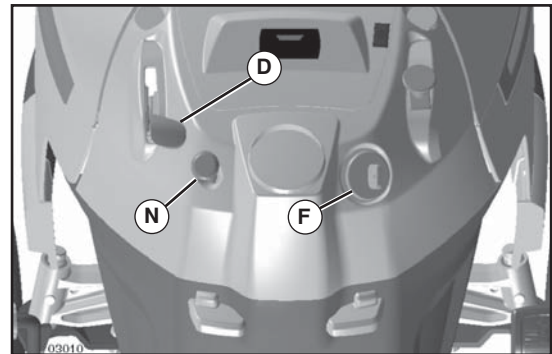

FIG. 6
TO USE THROTTLE CONTROL (D) (See Fig. 6)
TO USE CHOKE CONTROL (N) (See Fig. 6)